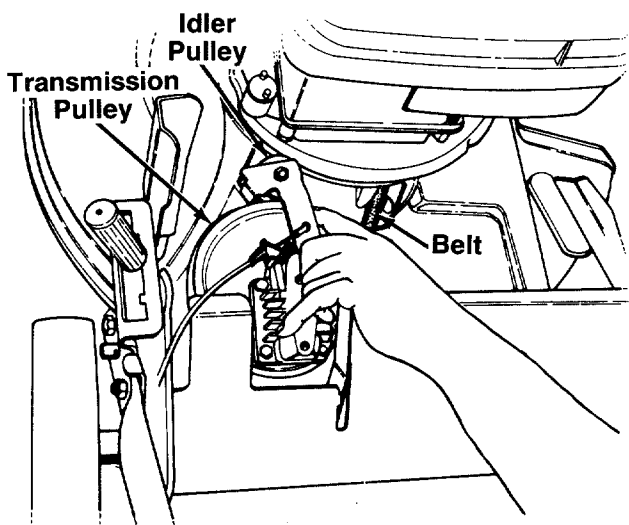

FIGURE 26.
10. Push the idler to the left and remove the belt from the transmission pulley. See figure 26.